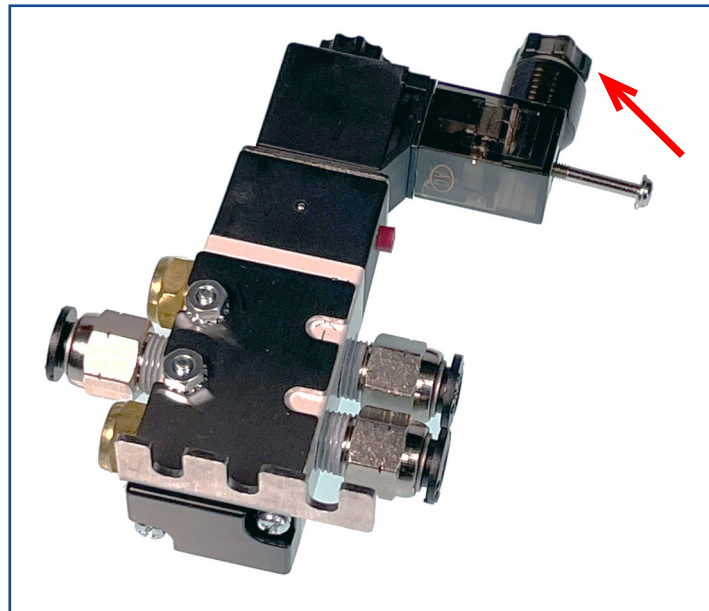

Figure 11 - Reverse housing and reassemble
6. Reverse the housing so that it points away from the solenoid manifold (Figure 11, above).